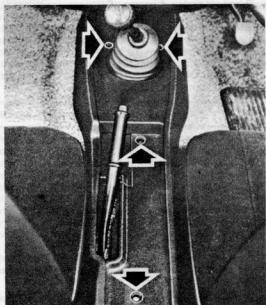

Fig. 9.15. Centre console retaining screws (Sec. 10)
- 15 From inside the car, remove the centre console (Fig. 9.15 and Section 11 in Chapter 13) and pull the carpet back from around the lever. Remove the two bolts in the side of the transmission tunnel that retain the lever assembly in position.